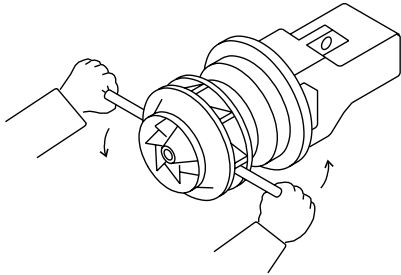

Fig. no.11 : Removal of impeller from pump shaft
2. Remove supporting foot (183) from the base frame and loosen bolts (901.01) on discharge cover. Refer fig No.11.)